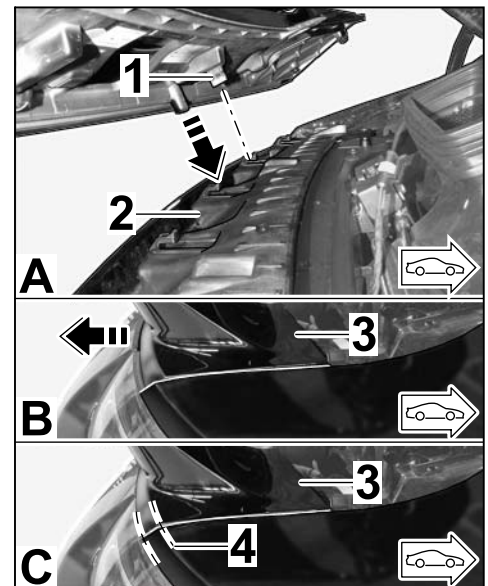

Figure 17
- 3.7.1 Carefully position rear spoiler over the mounting bracket and guide the pin (underside of rear spoiler) into the mounting bracket (⇒ Figure 17-A-).
- 3.7.2 Press rear spoiler down and carefully pull it as far as it will go to the rear at this position (⇒ Figure 17-B-).
The edges/radii all around the rear spoiler are flush with the edges/radii all around the wing (left/right: ⇒ Figure 17-C-).